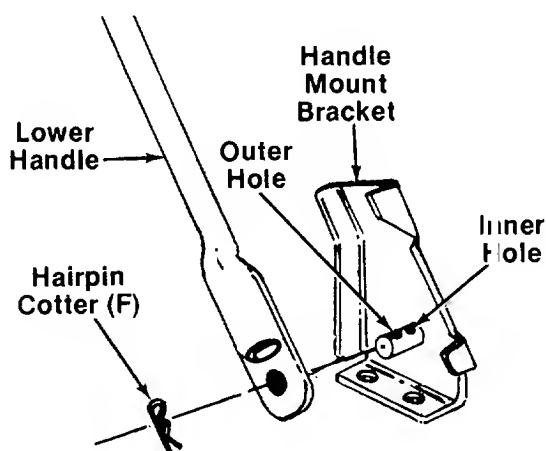

FIGURE 2.
- A (1) Cable Bracket
- B (2) Curved Head Carriage Bolts
- C (2) Lock Washers 5/16" I.D.
- D (2) Hex Nuts 5/16-18 Thread
- E (2) Cable Ties
- F (2) Hairpin Cotter
- G (1) Plastic Plug
- H (2) Ignition Keys (Not Shown)
3. Attach the lower handle by placing the bottom holes in the lower handle over the weld pins on the handle mount brackets. Make certain the instruction label on the lower handle can be read from the operating position. Secure with hairpin cotters (F) in inner holes on weld pins. See figure 2.